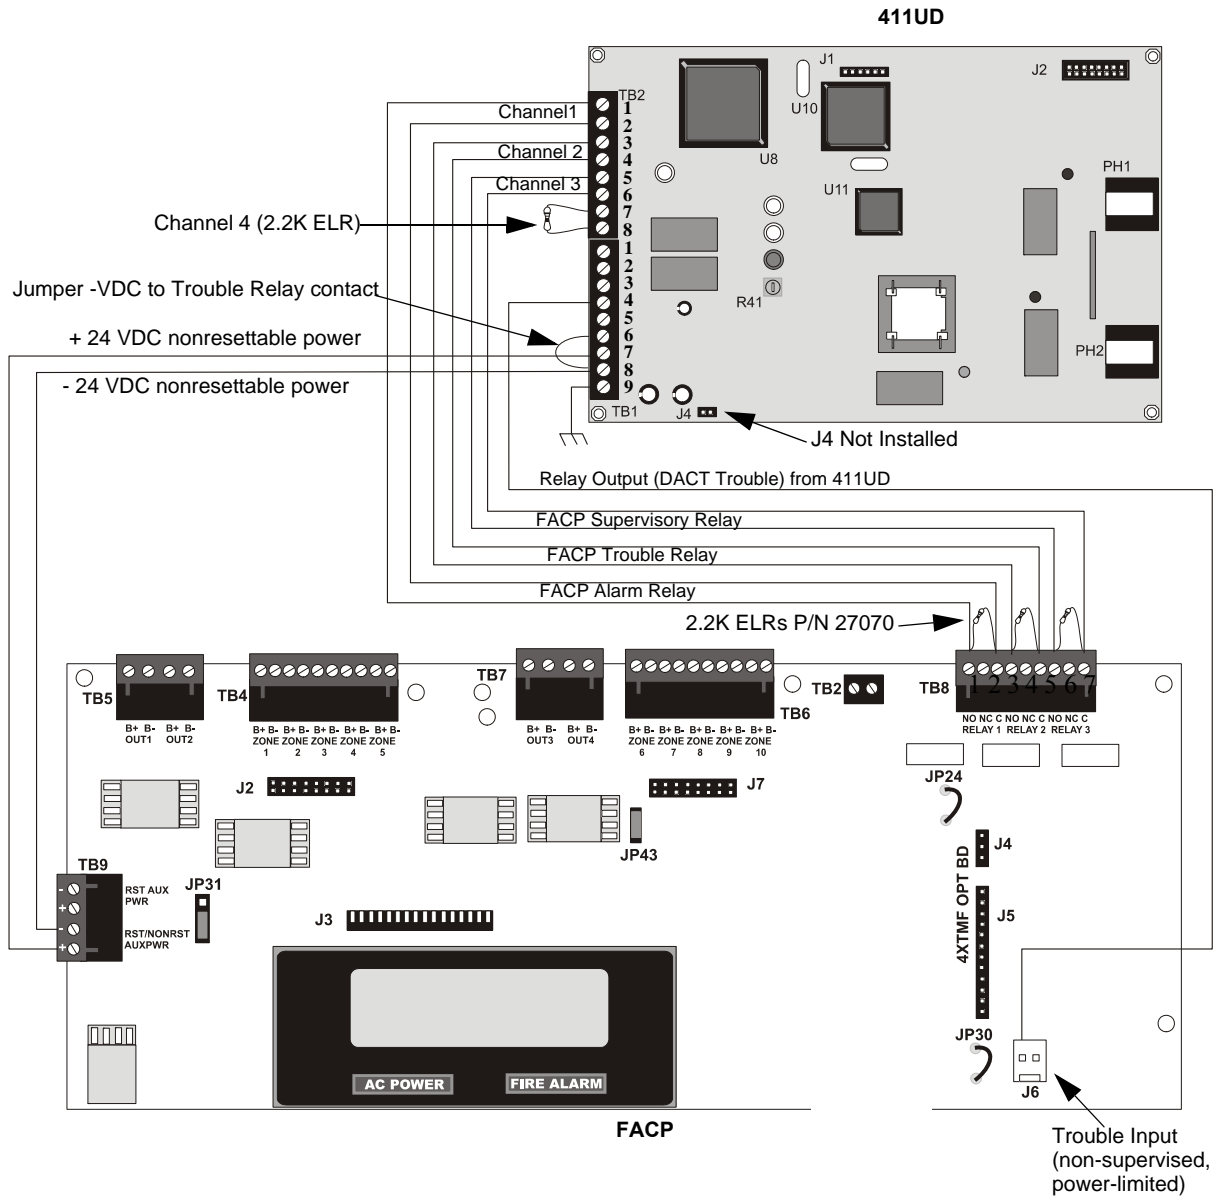

Figure B.1 MS-5UD/MS-10UD FACP Connection to 411UD
411UD may be installed as illustrated in Figure B.1, “MS-5UD/MS-10UD FACP Connection to 411UD,” on page 129.
5. Any zone of the 411UD can be wired to function as alarm, trouble or supervisory. In Figure B.1 on page 129, Channel 1/Zone 1 is wired to the control panel's alarm relay, Channel 2/Zone 2 is wired to the control panel's trouble relay and Channel 3/Zone 3 is wired to the control panel's supervisory relay